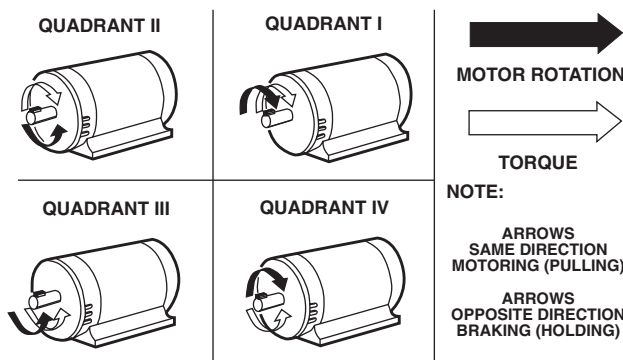

FIGURE 4.
**Nonregenerative DC Drives** – Nonregenerative DC drives are the most conventional type in common usage. In their most basic form they are able to control motor speed and torque in one direction only as shown by Quadrant I in Figure 4. The addition of an electromechanical (magnetic) armature reversing contactor or manual switch (units rated 2 HP or less) permits reversing the controller output polarity and therefore the direction of rotation of the motor armature as illustrated in Quadrant III. In both cases torque and rotational direction are the same.
**Regenerative DC Drives** – Regenerative adjustable speed drives, also known as four-quadrant drives, are capable of controlling not only the speed and direction of motor rotation, but also the direction of motor torque. This is illustrated by Figure 4.